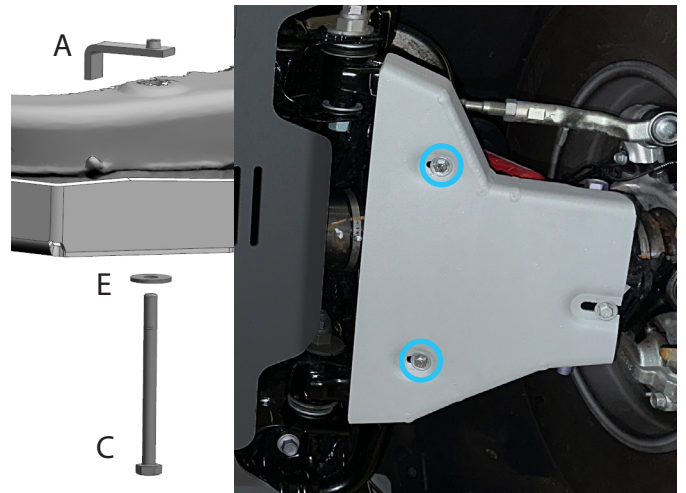

Fig.4
4. Secure the skid plate using M8x110 bolts (item C), M8 washers (item E) and M8 insert nuts (item A) as shown in Fig.4.